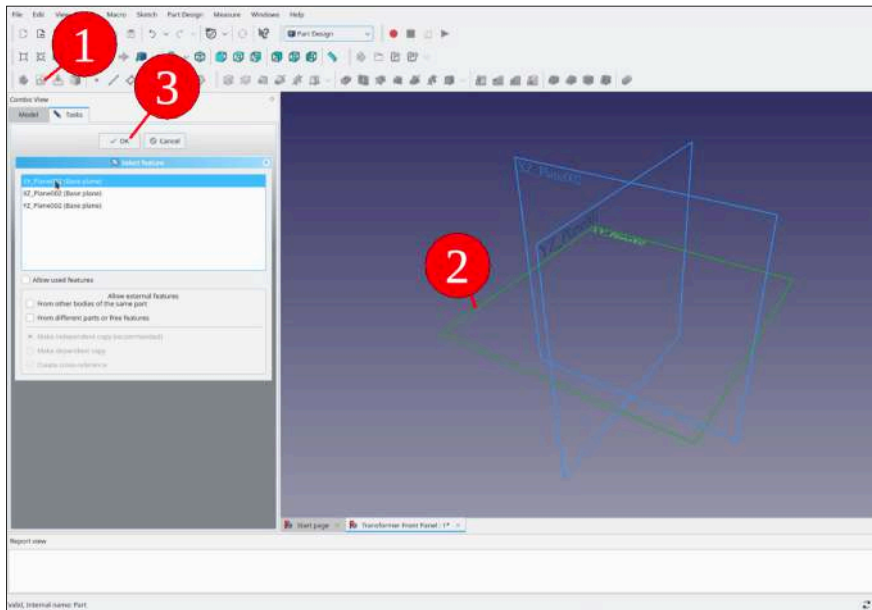

Figure 9-2
2. Click on the 'Sketcher' tool button and select the XY plane in the initial selection task window. Click 'OK' to proceed (Figure 9-2).